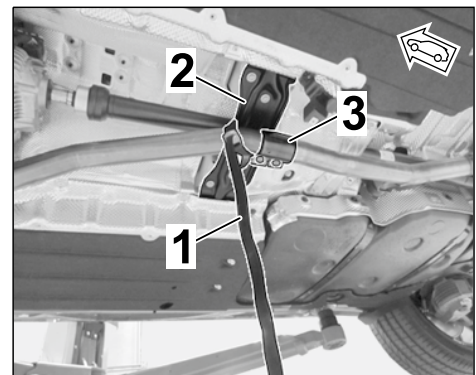

Figure 7 (4-cylinder)
- 1.3.2 Secure catalytic converter exhaust pipes on the transmission support (⇒ *Figure 7 (4-cylinder)*) using restraining strap for securing loads, for example, to prevent them from bending down.